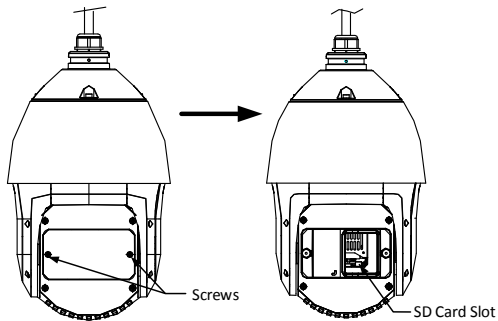

Figure 1-10 SD Card Slot
1. Remove the cover on the back of the speed dome as shown in Figure 1-10.